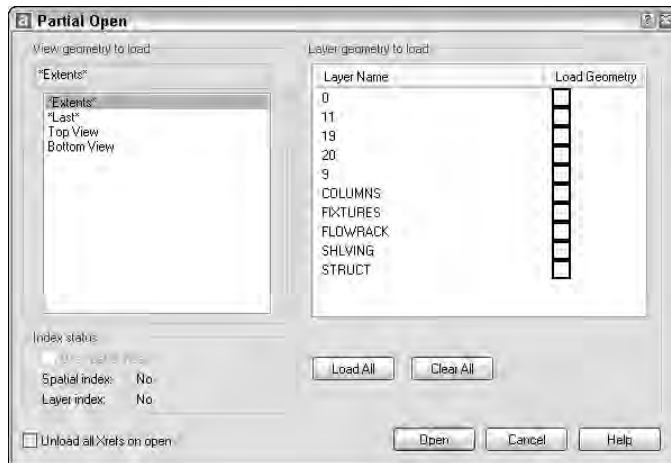

Figure 8-14: Use the Partial Open dialog box to open only the part of a drawing contained in a named view.
2. Choose a drawing and then click the Open drop-down box. Choose Partial Open. AutoCAD opens the Partial Open dialog box, shown in Figure 8-14.